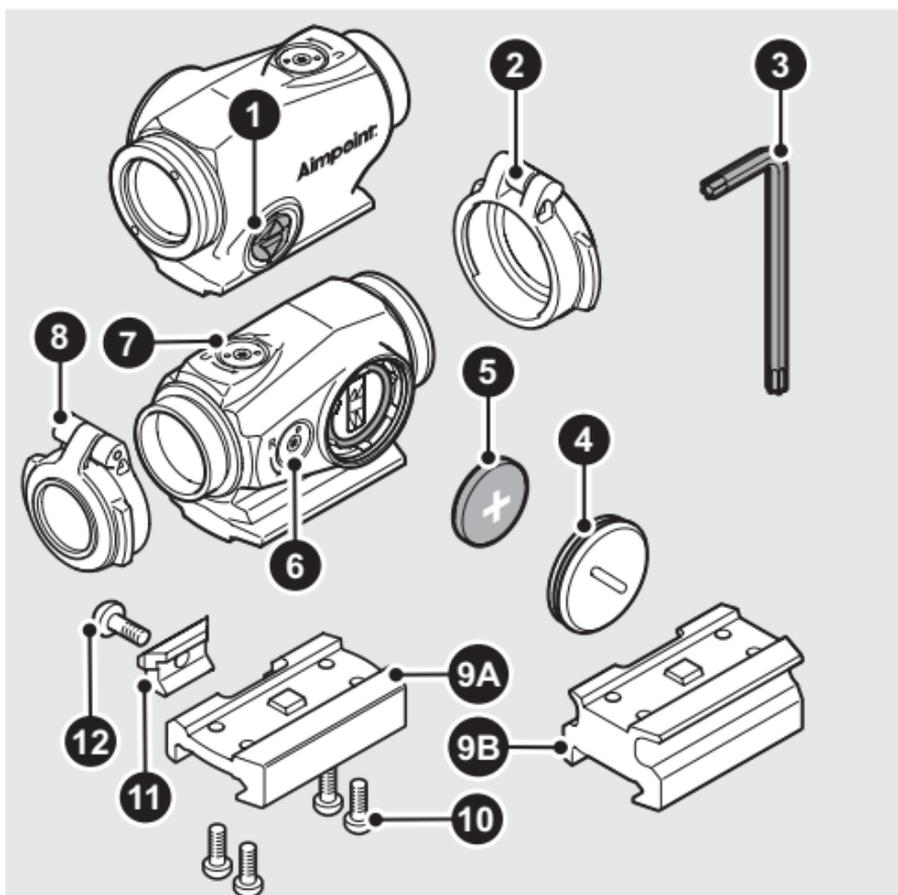

Fig. 1 Overview
- c Insert battery (5) with the positive end (+) toward the battery cap (4) as seen in Fig. 1.
If the sight is equipped with one of the mounts (9A / 9B) shown in Fig. 1, follow the described procedure. For installation with other mounts, see accompanying instruction.